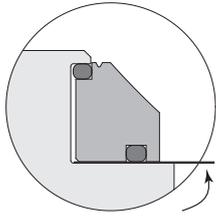

Figure 7. Venting using a feeler gauge
1. Fit the outside seat seal (21) and the inside seat seal (15) onto one of the seat rings (4). Use some silicone grease. Repeat for the other seat ring (4).
2. Gently push the seat ring (4), including the outside and inside seat seal (21, 15), into the seat area. During the assembly, the seat ring seals (o-rings) need to be vented. The easiest way to do this is to use a feeler gauge. See Figure 7. Place the feeler gauge at the outside location where there is a small flat surface on the outside of the seat ring (4).